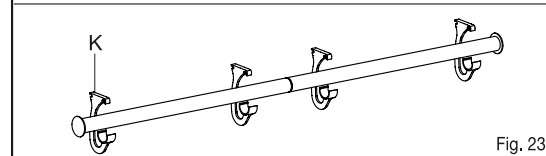

Fig. 23
- ☐ Position closet rod assembly at desired location and snap into closet rod brackets (K) (see Fig. 23 and Fig. 24).